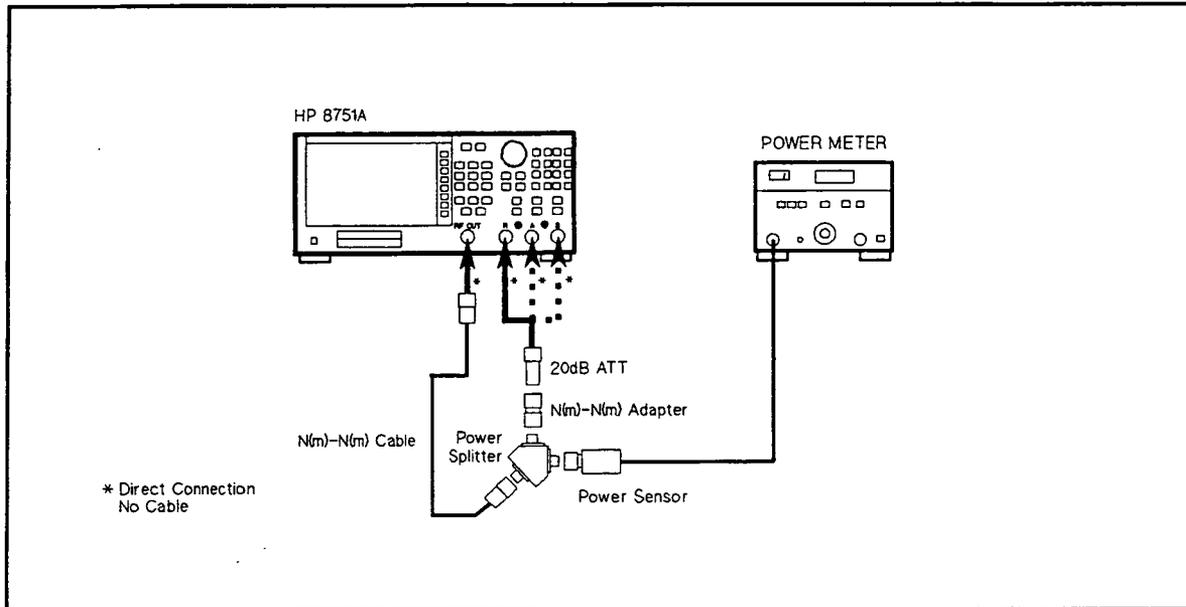

Figure 2-20. Absolute Amplitude Accuracy Test Setup 3
- Remove the Power Splitter from the front panel, and connect the 20 dB Pad as shown in Figure 2-20.